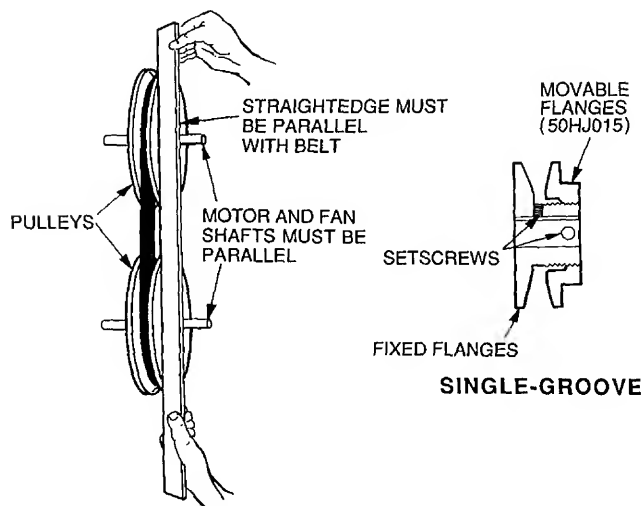

Fig. 19 — Evaporator-Fan Pulley Alignment and Adjustment
3. Loosen movable-pulley flange setscrew (see Fig. 19).
To align fan and motor pulleys (see Fig. 19):